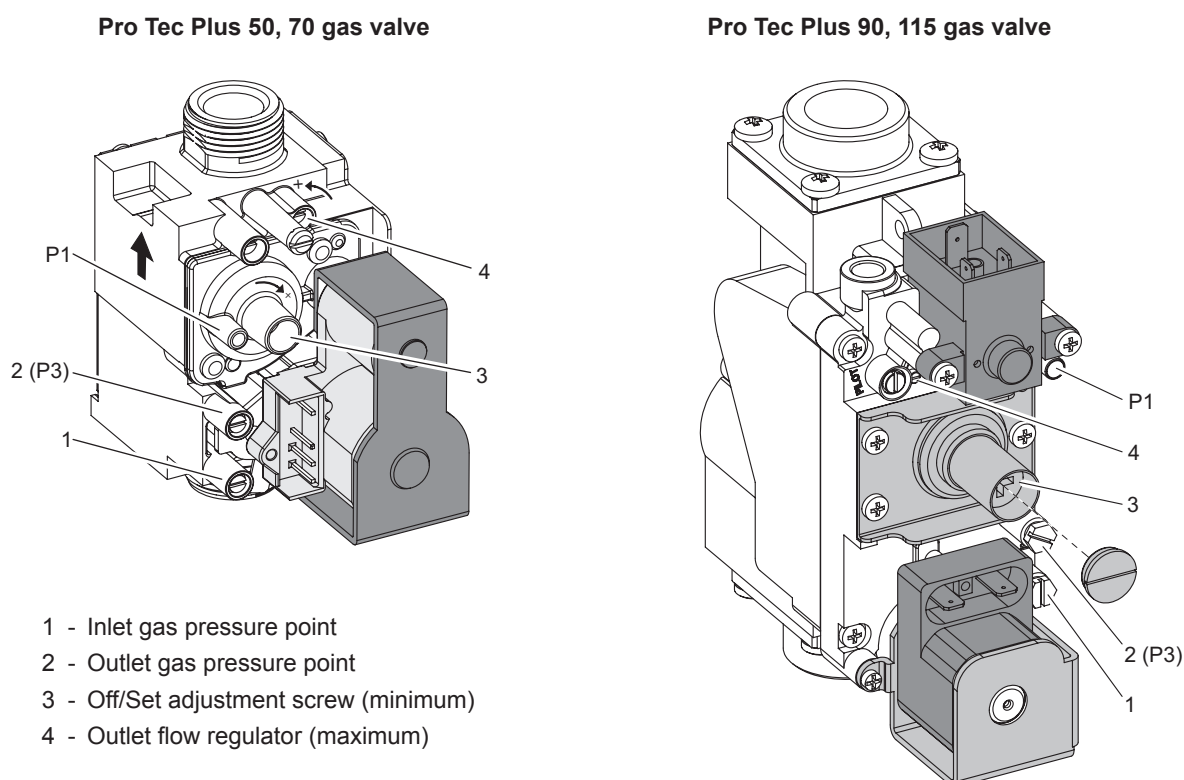

Fig. 5.1
2. Loosen the gas inlet pressure test point screw on the gas valve (see Fig. 5.1). Ensure the gas supply is on and open the boiler service cock to purge in accordance with BS 6891.